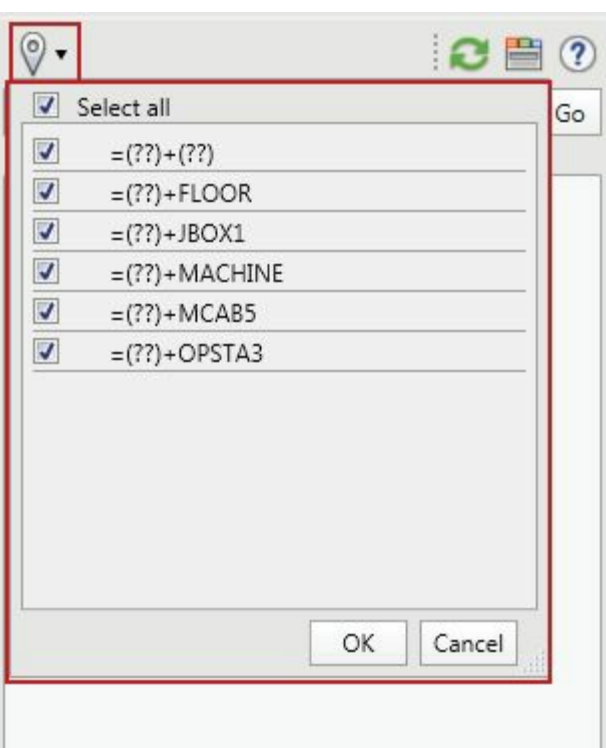

Figure-47. Drop-box for filtering installations and locations
- Click on the **Filter by Installation and Location** button. A drop-box will be displayed; refer to Figure-47.